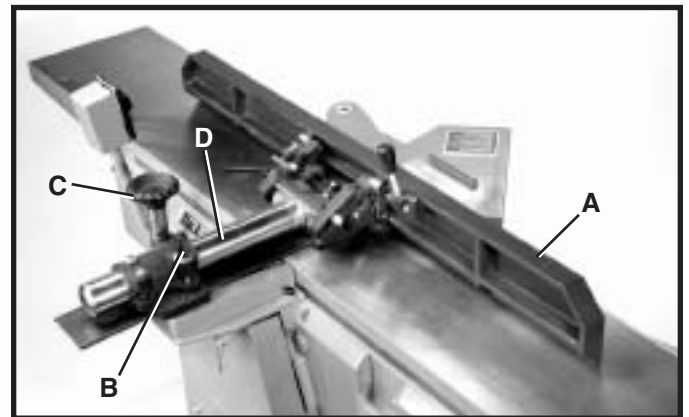

Fig. 19
1. The fence (A) Fig. 19, can be moved across the table by loosening lock lever (B) and rotating handwheel (C). After the fence is moved to its desired position, retighten lock lever (B) securely. **NOTE:** Lock lever (B) can be repositioned by pulling out the handle and repositioning it on the serrated nut located underneath the hub of the handle. As the fence (A) is moved across the table, the sliding portion of the column (D) guards the cutterhead in back of the fence as shown.